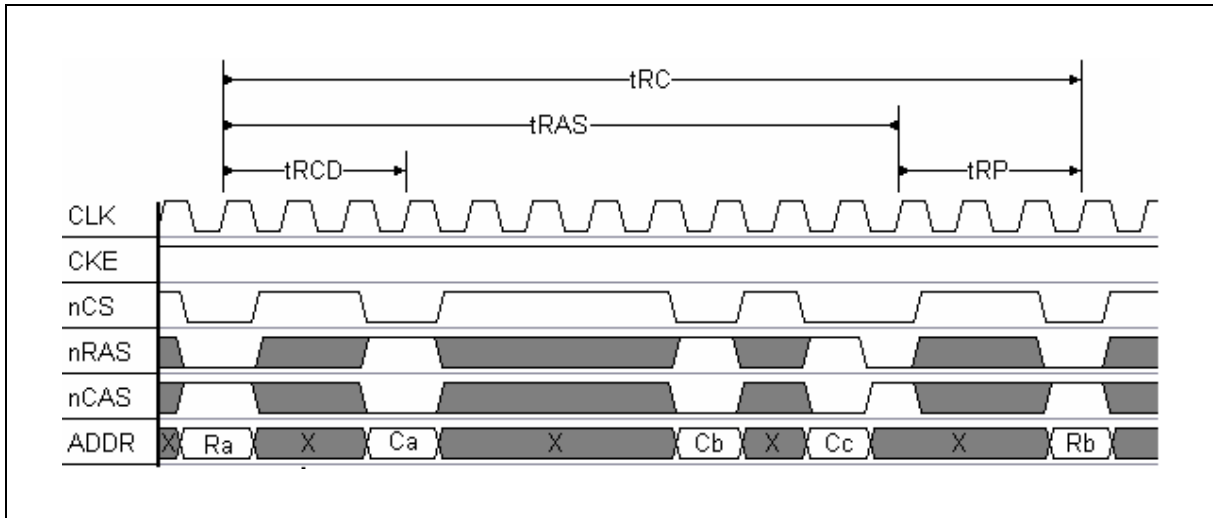

Fig 7.3.4 Access timing 1 of SDRAM
tRCD [10:8] : SDRAM bank 0/1, /RAS to /CAS delay (see Fig 7.3.4)
**tRP [5:3] : SDRAM bank 0/1, Row pre-charge time (see Fig 7.3.4)**
tRAS [2:0] : SDRAM bank 0/1, Row active time (see Fig 7.3.4)